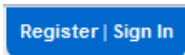

Figure 77. Sign In/Sign Out Button
10. In the upper left corner of the page, click the Sign In button. If you are already logged in, the button will say “Sign Out” instead of “Sign In” (see Figure 77).